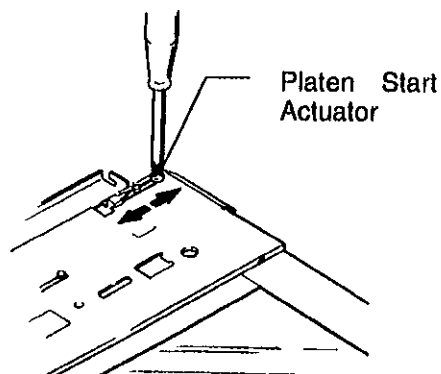

Figure 1. Adjusting the lead edge registration
4. (Figure 1). If the registration scale reading was.